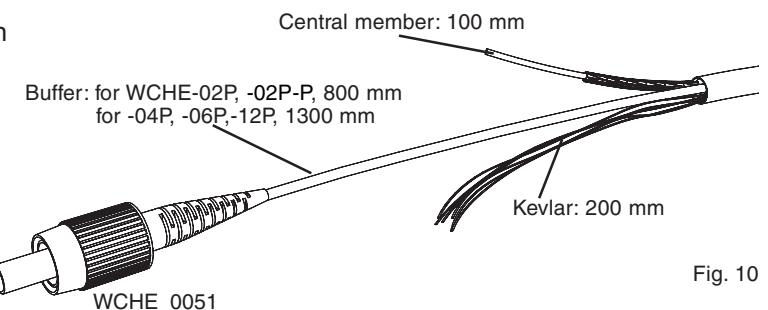

Fig. 10
6.2 Perform cable sheath removal steps as specified in instructions for the cable being installed. Suggested lengths are shown in Fig. 10.